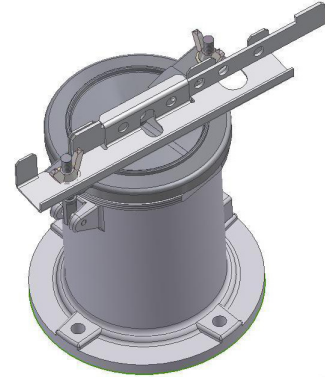

Figure 1
1. Prepare components as shown in figure 1.
1. With both wing nuts fully tightened, loosen the RIGHT wing nut that secures the receptacle cover ¼ turn and position both wing nuts as shown in Figure 1.